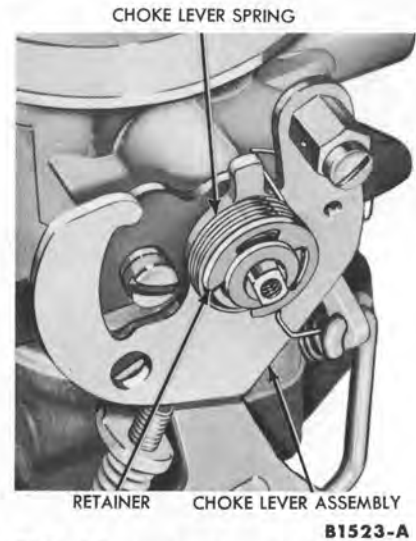
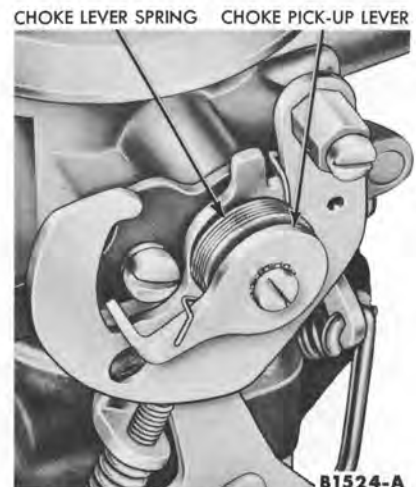

FIG. 15—Choke Lever Spring Installation
FIG. 16—Choke Pick-Up Lever Installation
2. Install the choke bracket. Position the choke lever on the main body with the number on the lever facing out. Position the spring on the lever (Fig. 15). Install the retainer and choke pick-up lever (Fig. 16).